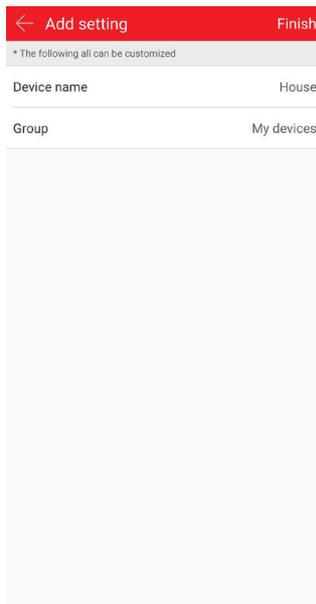

Fig.28
- In the next window (Fig. 28), program the name, by which the recorder will be identified in the application (any name, such as: "Home", "Work", etc.) and assign it to a device group (by default, check "My devices").